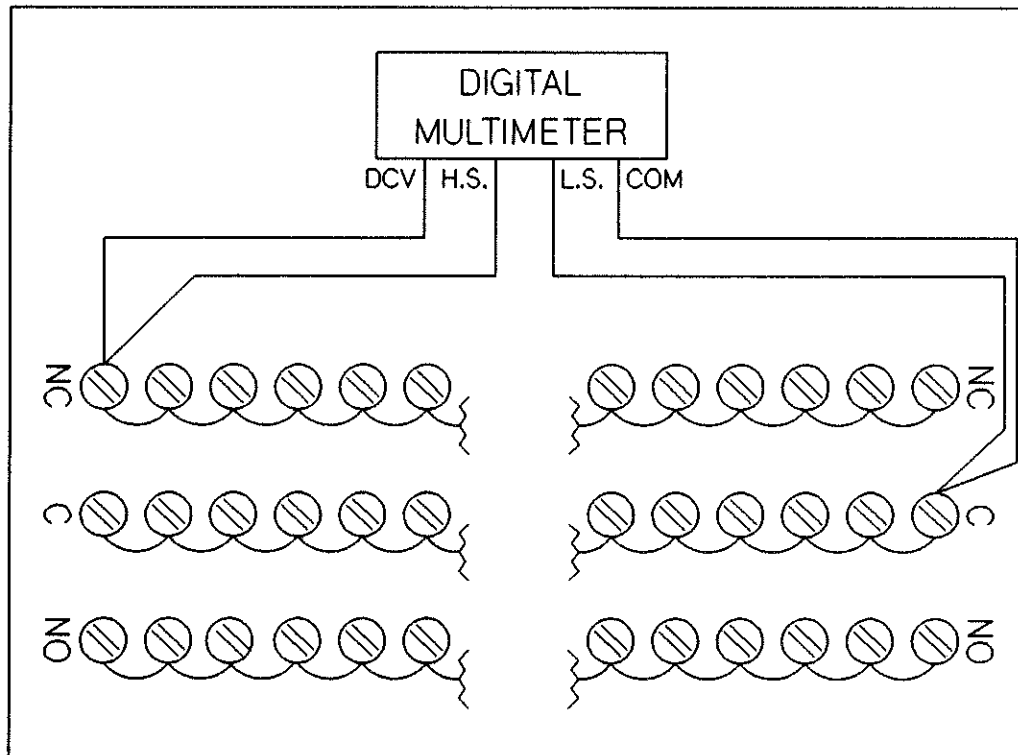

Figure 14-6 HP 44725A NC Channels Contact Resistance Test
10. Connect the multimeter DCV input and high SENSE leads to the NC (Normally Closed) connection on the test fixture. Connect the multimeter COM input and low SENSE leads to the C (Common) connection on the test fixture. The connections are shown in Figure 14-6.